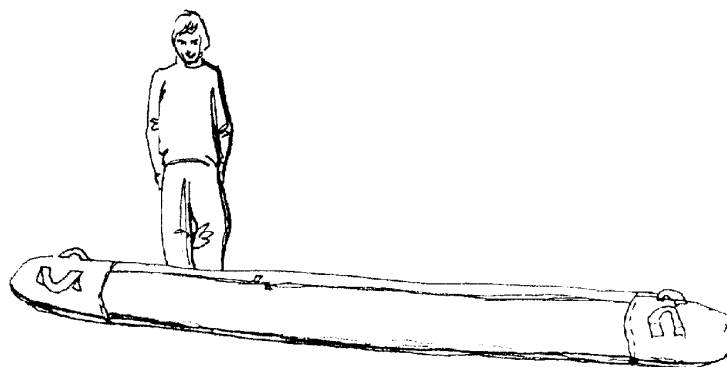

Fig. 10
2.2.1. With the wing in the bag (6 meters long) lay the wing on the ground zipper up (Fig.10).